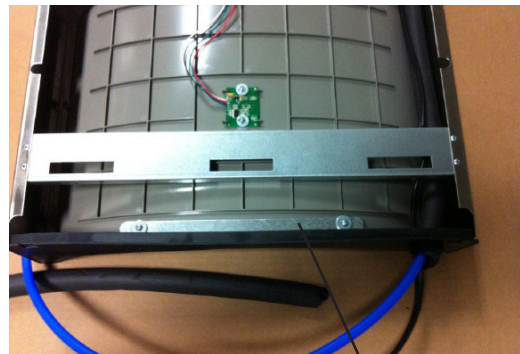

Fig. 10 BRACKET & SCREWS
- 6) **Install gasket on bottom of bottle filler tower** with gasket support bracket & (2) screws (See Fig 10).